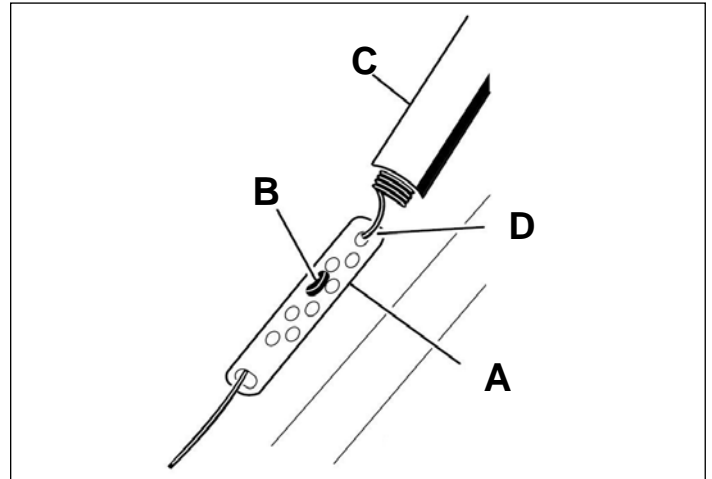

Fig. 010
1. Slide up the spring cover and unhook the spring from the adjuster link (Fig. 010).
2. Move the Z-fitting to a higher or lower hole on the adjuster link as needed to obtain the 1/16" - 1/8" (2 mm to 3 mm) gap between the control bar and the handle (Fig. 010).